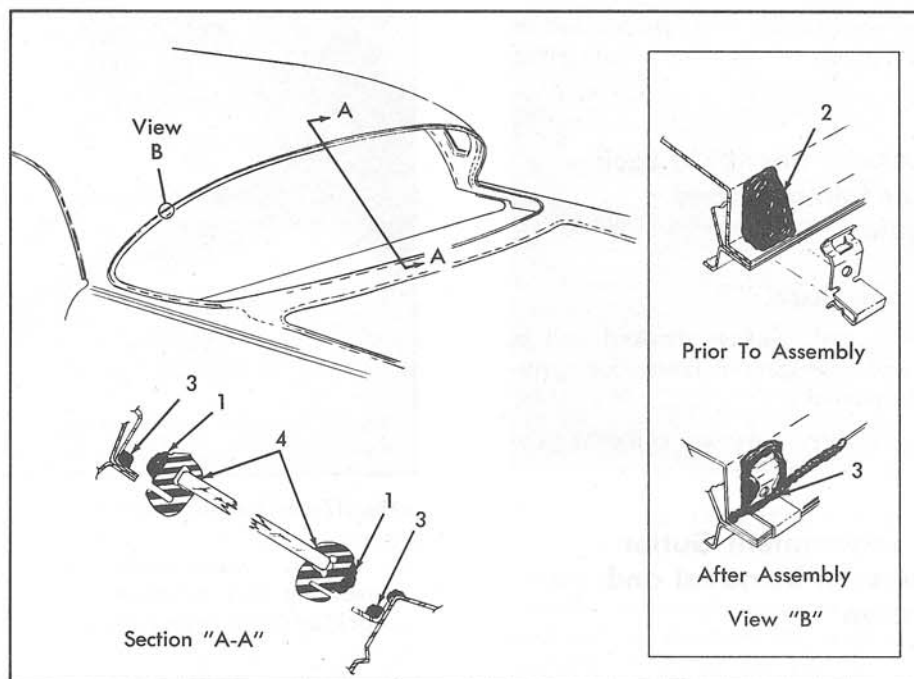

Fig. 17-52 Sealing of Back Window Assembly
3. Apply bead of medium-bodied sealer completely around perimeter of rubber channel as indicated at "1" in Section "A-A", Fig. 17-52.
4. Check installation of pinchweld-clips. If replacing clips, apply medium-bodied sealer to opening rabbit as indicated at "2" in View "B", Fig. 17-52, prior to assembly.
NOTE: Where a pinchweld-clip has been replaced, apply a bead of medium-bodied sealer in corner of clip and connect this bead of sealer with sealer previously applied to rabbit of pinchweld flange as indicated at "3" in View "B", Fig. 17-52.
9. Apply approved weatherstrip cement between glass and outer lip of rubber channel completely around perimeter of glass, as indicated at "4" in Section "A-A", Fig. 17-52.
(88) Rear Compartment Lid Removal, Installation and Adjustment